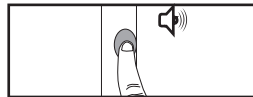

Figure 15.1; Press and Hold
On the E-Wands you wish to group together, one by one, press and hold the PROGRAMMING BUTTON (b) until you hear a SINGLE BEEP (1), then release [Fig. 15.1].